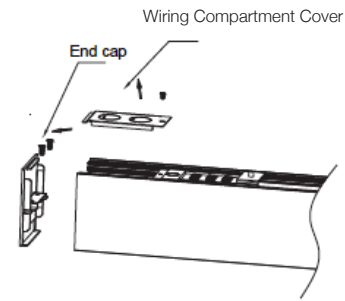

Fig. 1
1. Remove screw to release the wiring compartment cover and remove screws to release the end caps (Fig. 1).